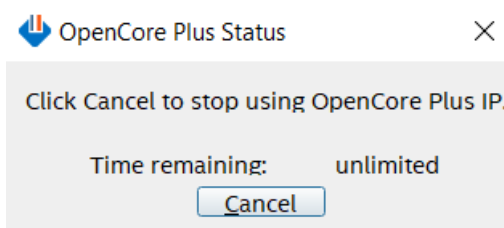

Figure 3-3 OpenCore Plus Status
- 7) When configuration is completed, Quartus will show popup message of OpenCore Plus as shown in Figure 3-3. Please do not press cancel button, because NiosII in tCAMIP will stop running.